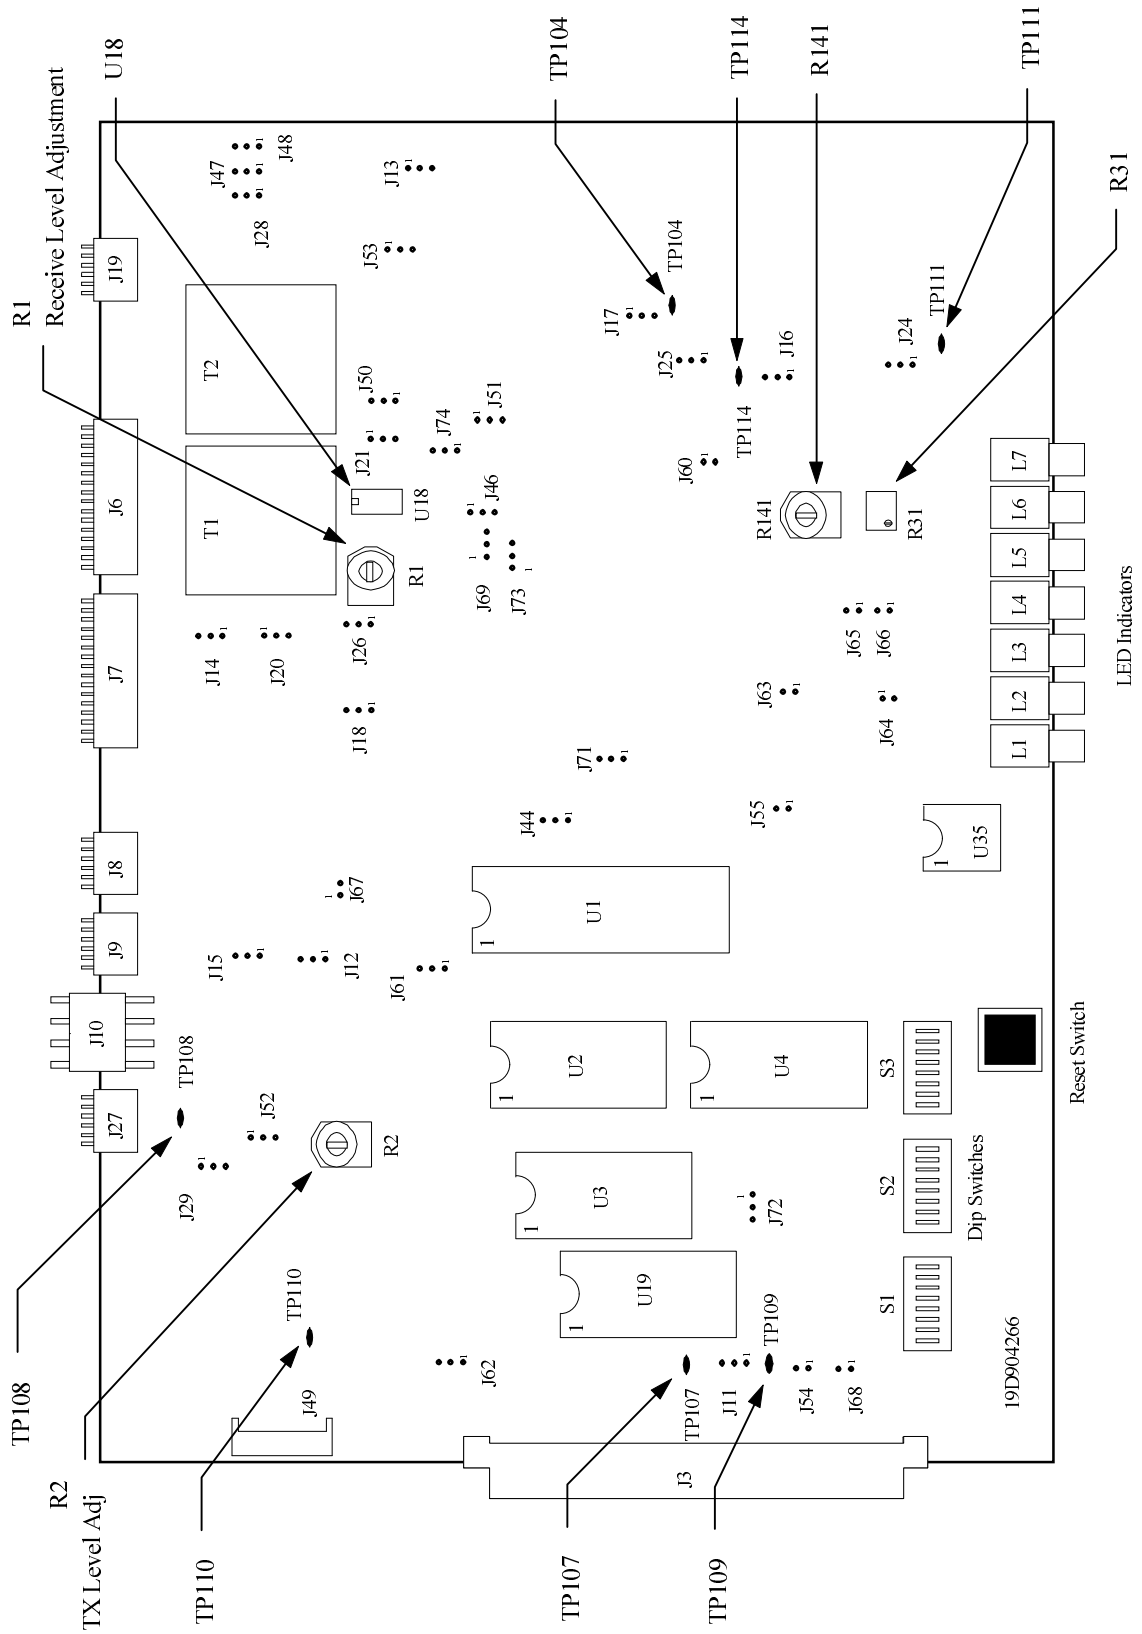

Figure 6 - Station GETC (19D904266) Jumper and Test Point Locations
There are a few jumpers on the GETC Logic Board which must be re-configured for different applications. To properly configure the GETC jumpers, refer to jumper tables in SRN1060 or SRN1061 and install or remove jumpers according to the intended GETC application. The location of the jumpers may be found using the board layout diagram in Figure 6.
2. Set the GETC DIP switches S1, S2, and S3 for the programming mode as shown in Figure 8. Set S2-8, S3-3 and S3-6 to OPEN. All other S3 positions should be CLOSED. Switches S1-1 thru S2-7 can be in any position and need not be changed. DIP switches S1-S3 are located near the front of the GETC Shelf, see Figure 6.
3. Reset the GETC by either applying power or pressing the GETC RESET switch S4, see Figure 6, located just below the DIP switches. Resetting the GETC, in combination with the DIP switch settings, places the